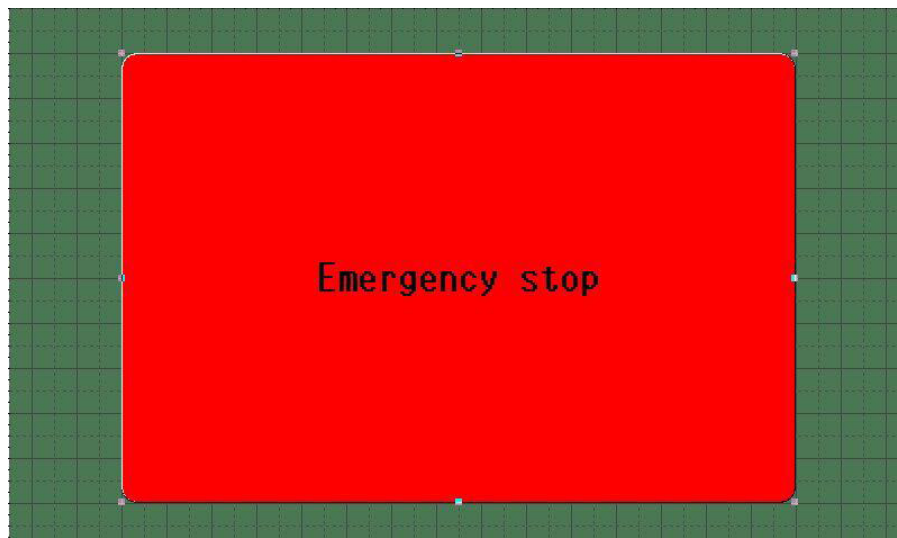

Figure 13
1. In the event of an emergency, press the STOP button. This cancels the current wrapping cycle and immediately stops the system. Figure 13 will display on the screen.